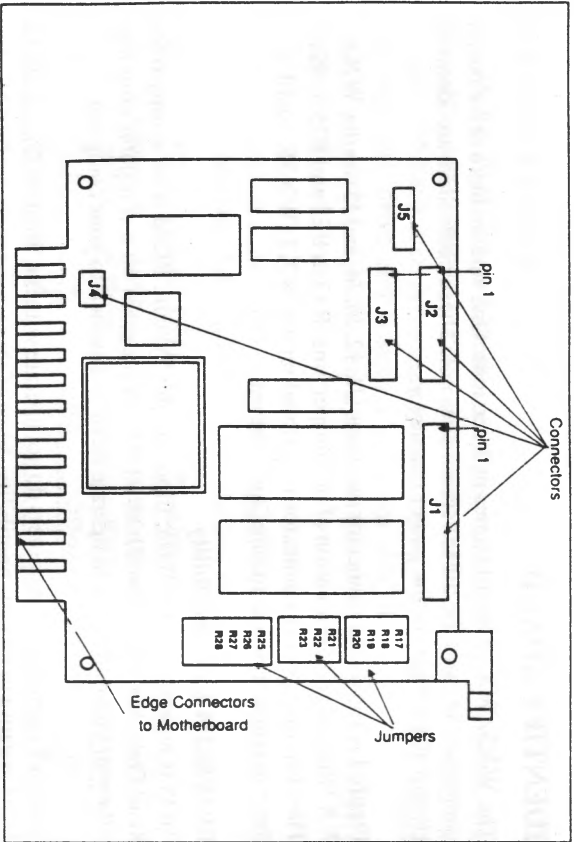
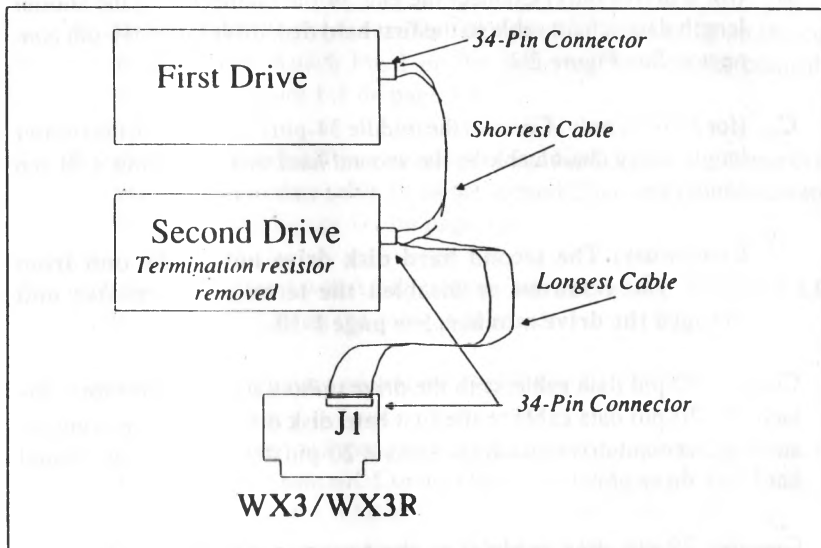

FIGURE 1-1. WX3 / WX3R CONNECTOR AND JUMPER LOCATIONS
FIGURE 2-1. DAISY CHAIN CABLE CONNECTIONS
Figure 1-1 shows the connector locations (J1, J2, J3, J4, and J5) on the WX3/-WX3Rboard and the location of the jumper pins (R17 to R23 and R25 to R28). The (J4) drive power connector is optional on the WX3/WX3R board. It is there to connect power to FileCard[®] drives.
- A. (for 1 drive only) Connect the 34-pin (wide control cable) connector to J1 on the controller board. Attach Pin 1 of the cable connector to Pin 1 on the controller board. See Figure 1-1 on page 1-4.
Connect the 34-pin wide connector on the longer length daisy chain cable to J1 on the board. See Figure 1-1 and Figure 2-1.
- B. (for 2 drives only) Connect the end 34-pin connector on the shorter length daisy chain cable to the first hard disk drive unit's 34-pin connector. See Figure 2-1.
- A. Connect the 20-pin data cable from the first drive to J2 on the controller board. Attach Pin 1 on the cable to Pin 1 on the controller board. See Figure 1-1 on page 1-4.
- B. (for 2 drives only) If you install a second hard disk drive, connect the second 20-pin data cable from the second drive to J3 on the controller board. See Figure 1-1 on page 1-4.